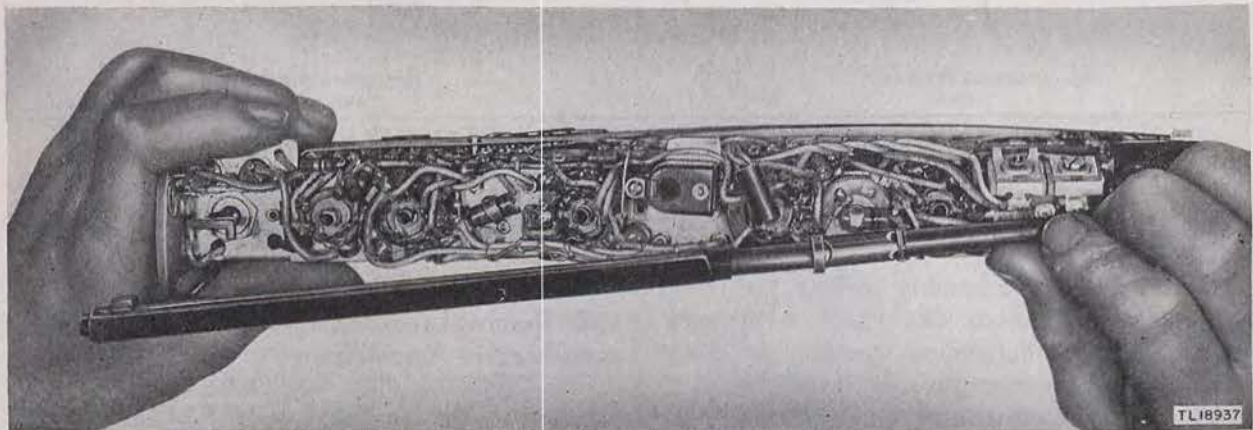

Figure 45. Antenna and antenna guide removal, Radio Receiver and Transmitter BC-611-(*).
(4) Swing antenna and antenna guide clear of the chassis end plate and remove the antenna and guide together by sliding them through the wiper and support assembly toward the chassis end plate. (See fig. 45.)
(5) Separate antenna and antenna guide carefully.